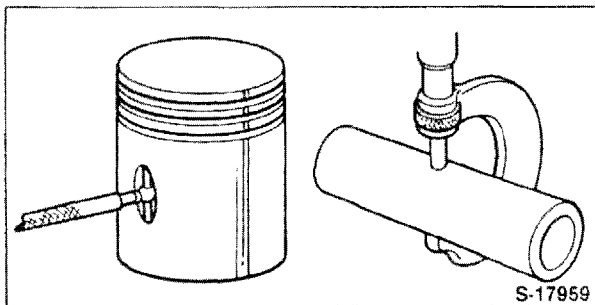

Figure 57
4. Using a small hole gauge and micrometer, measure the piston pin bore and piston pin diameter, Figure 57.